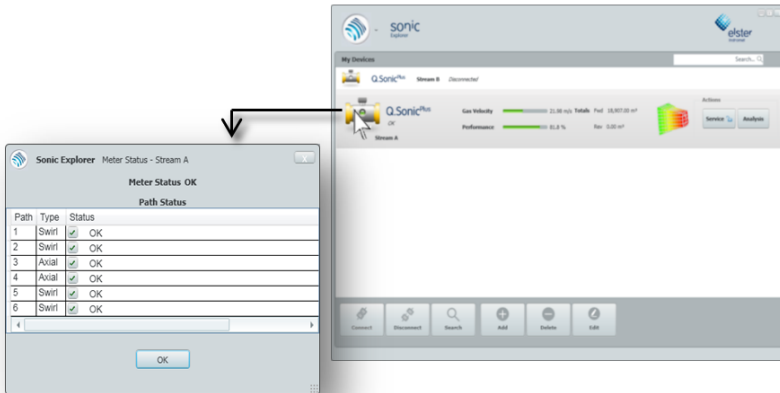

Figure 11-7 Quick Check of the Meter Status
- ✓ Another window will open showing the Meter Status. Please see Figure 11-7.